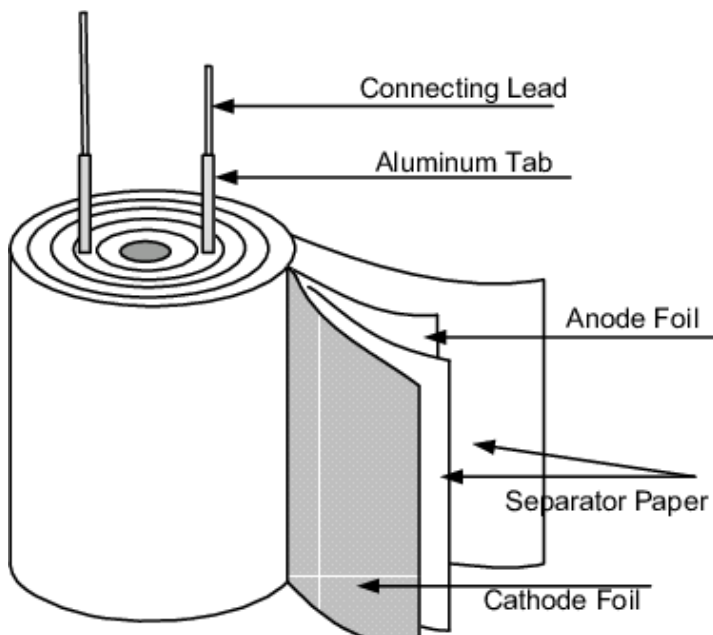

Figure 38: Electrolytic Capacitor Structure
6. Explain: All capacitors are essentially made from two conductive surfaces, or plates, held in close proximity to one another, but never touching. Indeed the two surfaces are often separated by an air-gap or a special insulating material called a dielectric. The larger the capacitor the larger the surface areas of the two plates. Electrolytic capacitors are made using an ingenious method of winding two layers of aluminium foil, tightly together in a spiral fashion, forming a cylindrical structure. The two foil tapes are separated by a very thin layer of paper soaked in an electrolyte solution. The capacitor's connecting leads are attached to each foil. See Figure 38 for details.